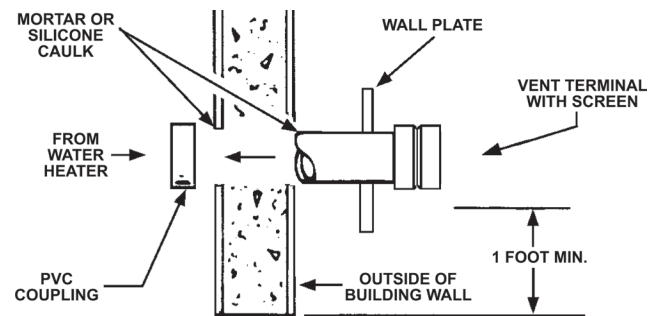

Figure 13: VENT TERMINATION
2. Through-the-Wall Termination - horizontal vent termination directly through an outside wall, see Figure 13 on Page 27.
The first step is to determine where the vent pipe will terminate. See Figure 13, Figure 14A, and Figure 15. The vent may terminate through a sidewall as shown in Figure 13, Figure 14A and Figure 15 or through the roof as shown in Figure 18, Figure 19 and Figure 20.
Instructions on proper installation through a sidewall are provided in Figure 13, Figure 14A, and Figure 15.
Cut a length of pipe about 3.5 inches (8.9 cm) longer than the wall thickness at the opening. Glue the vent terminal to this section of pipe. Slide the wall plate over the pipe to stop against the vent terminal. Place a bead of caulking (not supplied) around the gap between the pipe and cover plate. Apply enough to fill some of the gap between the pipe and wall. Place some of the caulking on the back of the plate to hold it against the wall after installation. If the vent pipe is installed up to the wall, with a coupling on the end against the wall opening, the pipe with the vent terminal can be prepared for gluing before inserting through the wall. Slide the pipe through the wall and insert into the coupling on the other side of the wall, making sure that the vent terminal ends up pointed in the correct position, see Figure 13.